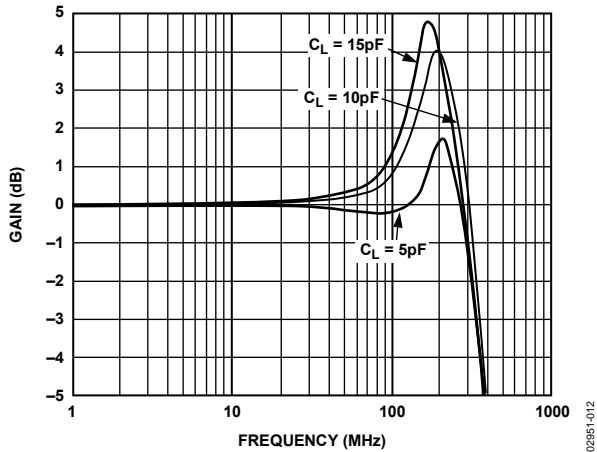
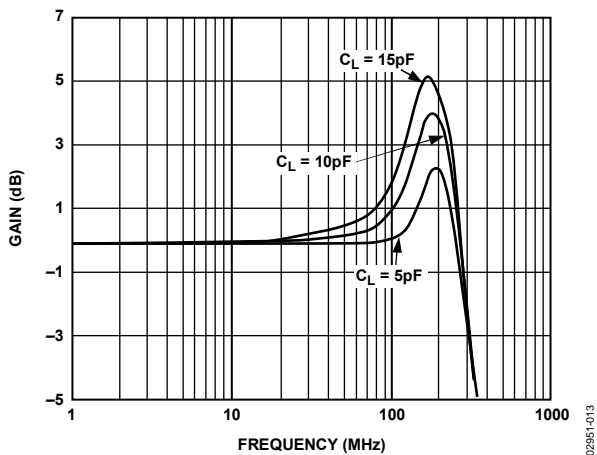
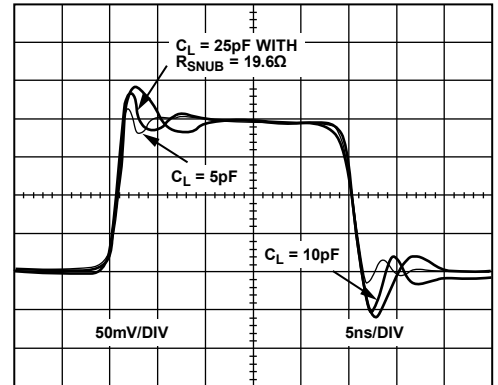
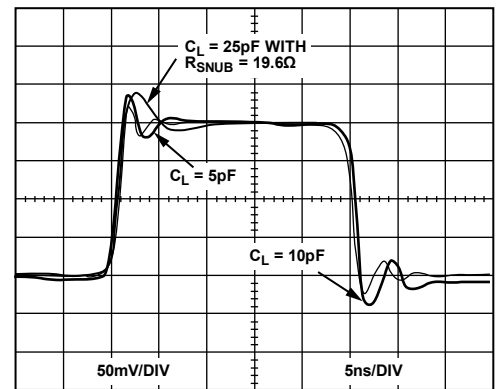

Figure 12. Small Signal Frequency Response for Various  $C_L$ ,  $V_{OUT} = 500\text{ mV p-p}$ ,  $V_S = \pm 5\text{ V}$ ,  $G = +1$
Figure 13. Small Signal Frequency Response for Various  $C_L$ ,  $V_{OUT} = 500\text{ mV p-p}$ ,  $V_S = 5\text{ V}$ ,  $G = +1$
Figure 27. Small Signal Transient Response for Various  $C_L$ ,  $V_S = 5 V$
Figure 28. Small Signal Transient Response for Various  $C_L$ ,  $V_S = \pm 5 V$
- Put a small value resistor in series with the output to isolate the load capacitor from the output stage of the amplifier, see Figure 12, Figure 13, Figure 27, and Figure 28.